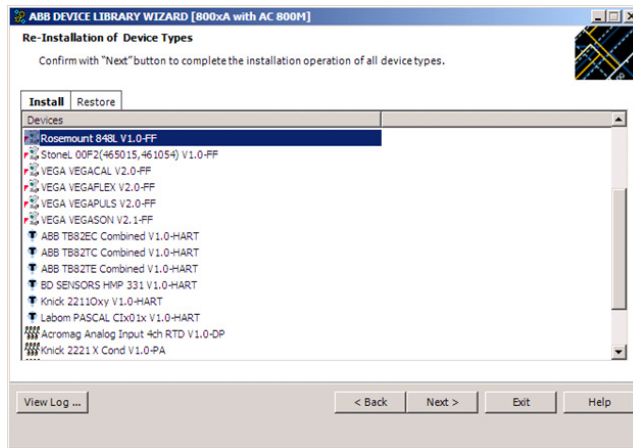

Figure 19. Re-install Device Types Dialog Box
- When the extraction process is completed successfully, the Device Types need to be re-installed on the 800xA System node. Click **Next** to launch the Re-installation of Device Types dialog box shown in Figure 19.